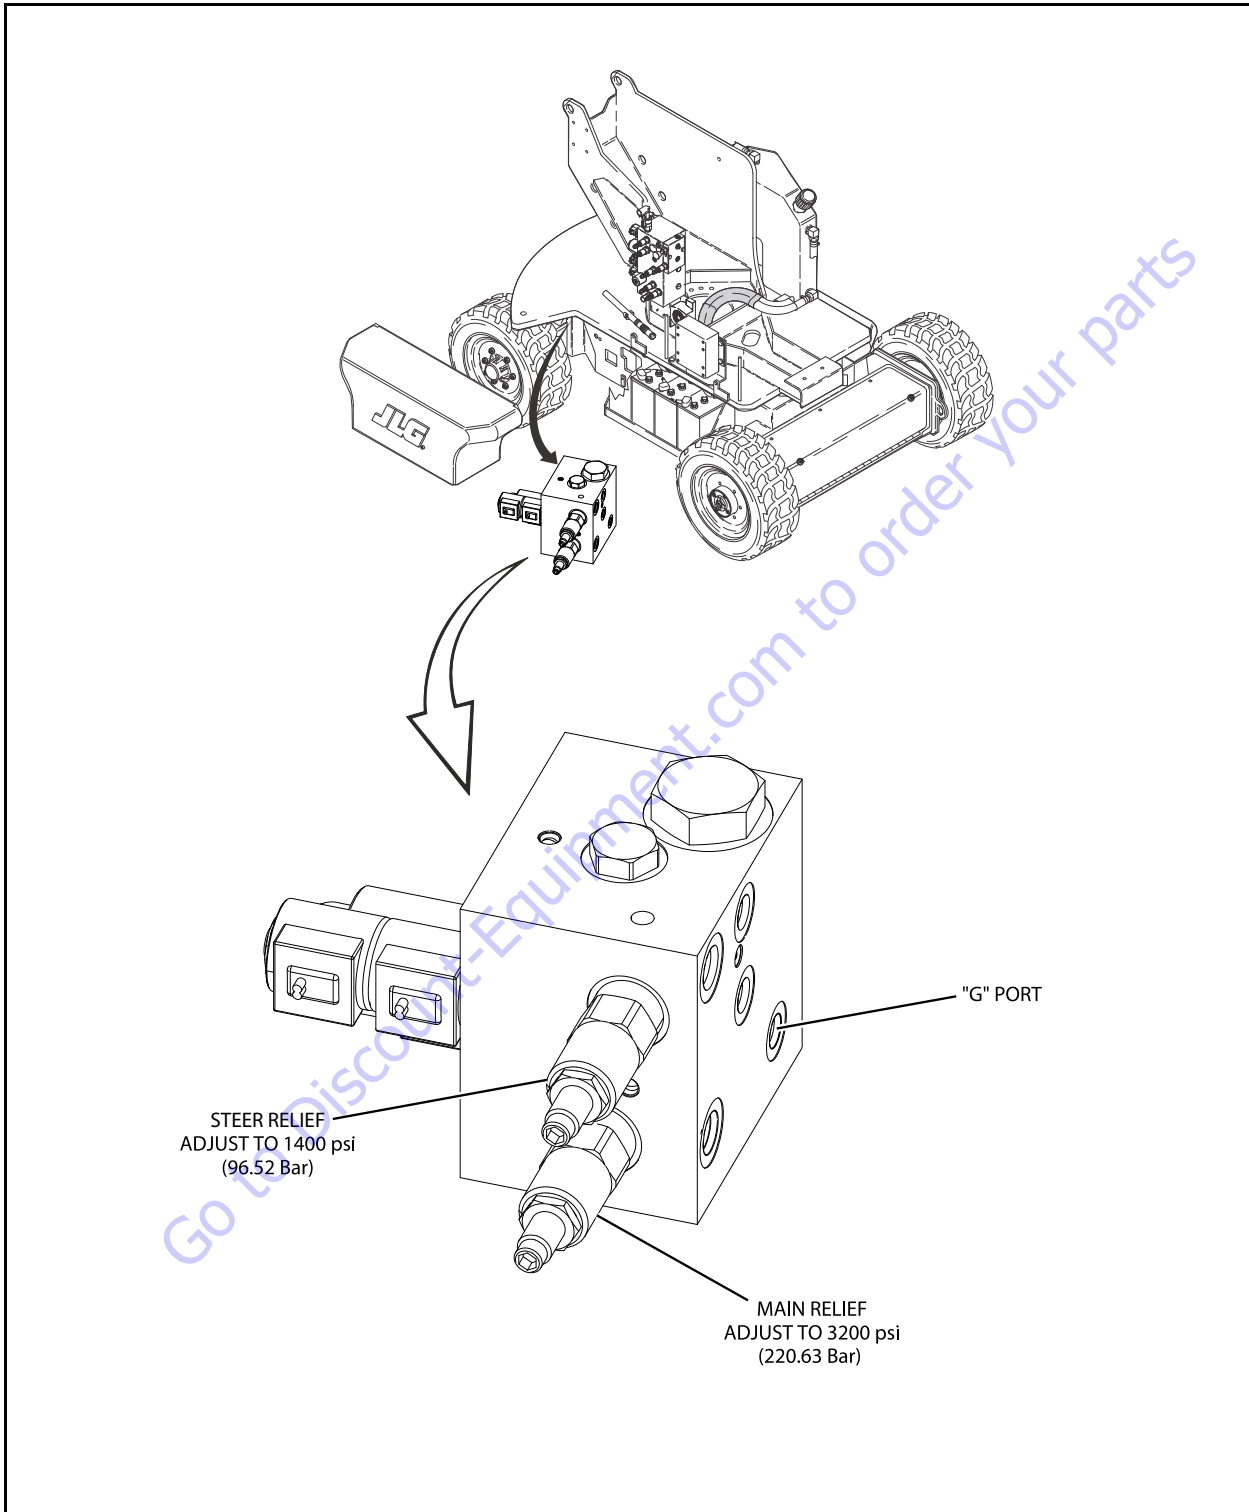

Figure 5-112. Steer Valve Pressure Adjustment
2. Activate and bottom out either Main or Lower Lift Up. Adjust Main Relief to value given in Figure 5-112., Steer Valve Pressure Adjustment.
2. Adjust Steer Relief to value given in Figure 5-112., Steer Valve Pressure Adjustment.